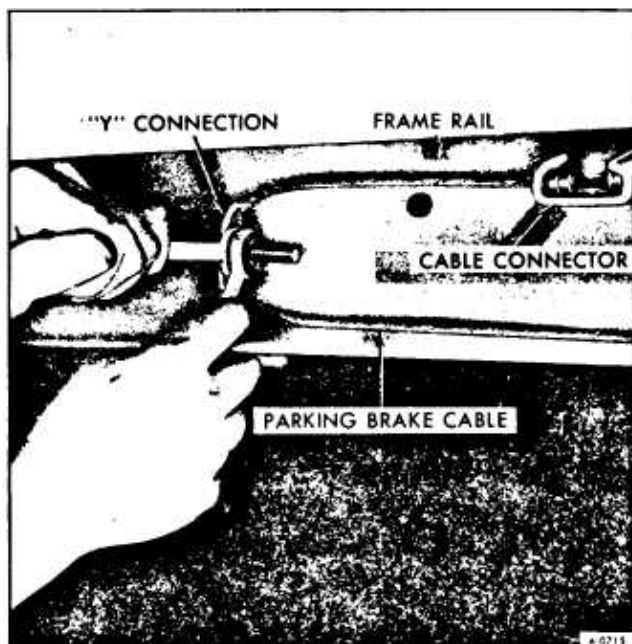

Figure 11—Disconnecting Parking Brake Cable
7. Disconnect parking brake cable at "Y" connection as shown in Figure 11.